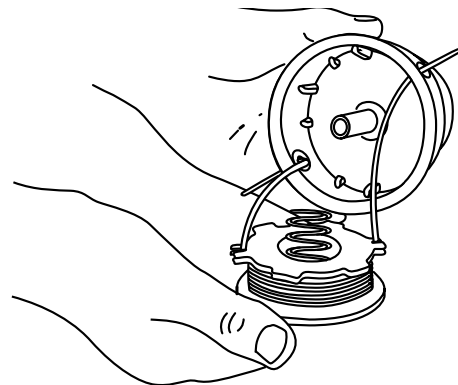

Fig. 28
9. Place the spring in the inner reel. Insert the ends of the line through the eyelets in the outer spool and place inner reel inside the outer spool (Fig. 28). Push the inner reel and outer spool together. While holding the inner reel and outer spool, grasp the ends and pull firmly to release the line from the holding slots in the spool.
5. Place the spring in the new inner reel. Insert the ends of the line through the eyelets in the outer spool (Fig. 28).